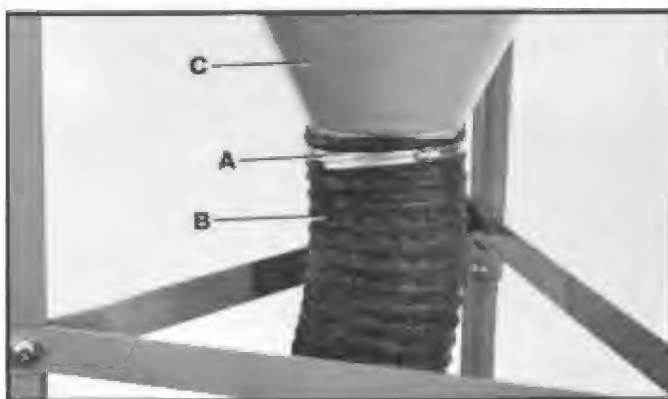

Fig. 24
1. Slide clamp (A) Fig. 24, supplied, over one end of 7 inch diameter hose (B).
2. Assemble hose (B) Fig. 24, over bottom outlet (C) of cyclone separator and tighten clamp (A).